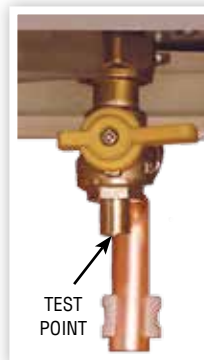

FIGURE 23.
IMPORTANT. The gas service cock is sealed with a non-metallic blue fibre washer, which must not be overheated when making capillary connections. See Figure 23 for details of the position of the gas connection.
14.4.1 The drain comprises of a 15mm diameter stub pipe. See Figure 23.